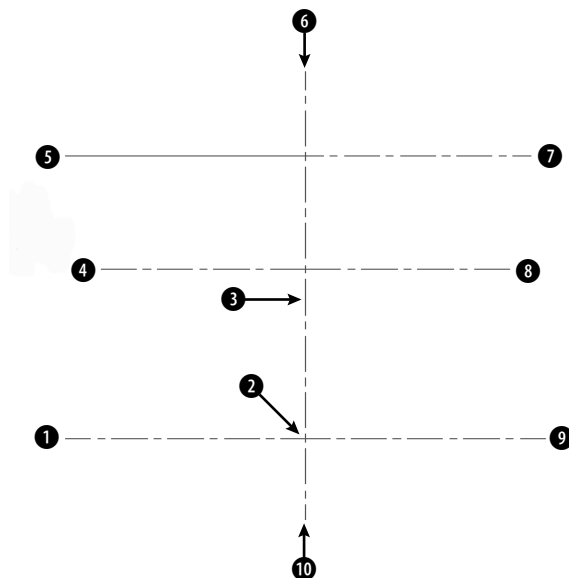

Figure 21-17: These centerlines are the basis for drawing a chair.
3. Choose Circle from the Draw toolbar. Use the From object snap to specify the center at @2,0 from ❶ in Figure 21-17. Set the radius to 0.5.
5. Click ORTHO on the status bar to turn it on. Choose Mirror from the Modify toolbar. The circle should be selected. (If it isn't, select it.) Specify the endpoint at ❷ for the first point of the mirror line. Specify any point vertical to ❷ for the second point of the mirror line. Choose not to delete the source object (the circle).
9. Choose Polyline from the Draw toolbar. At the Specify start point: prompt, choose the From object snap. Use the Center object snap of the top of the circle near **1** in Figure 21-17 for the base point and an offset of @-2,0. (You may have to tab to get the Center object snap.) Continue to pick points **4** through **10**. Notice that the Endpoint object snap symbol appears at the height of the first point. Then right-click and choose Close to close the polyline.